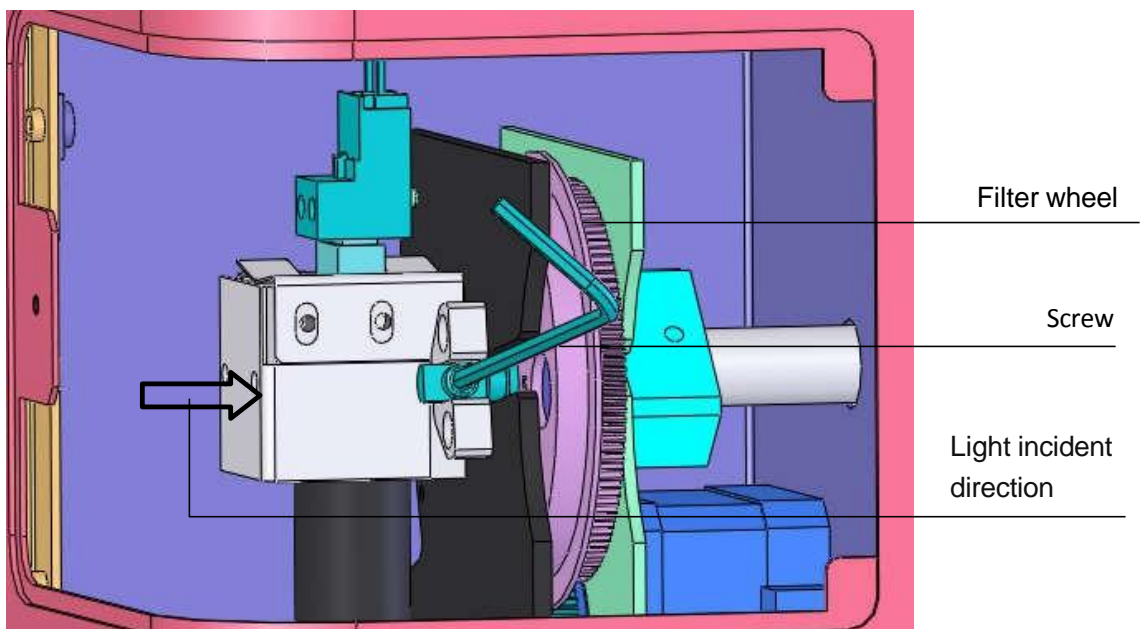

fig 57
- a. Loosen the knob to open the back door, take out the optical filter wheel by the equipped allen wrench (Fig 57).